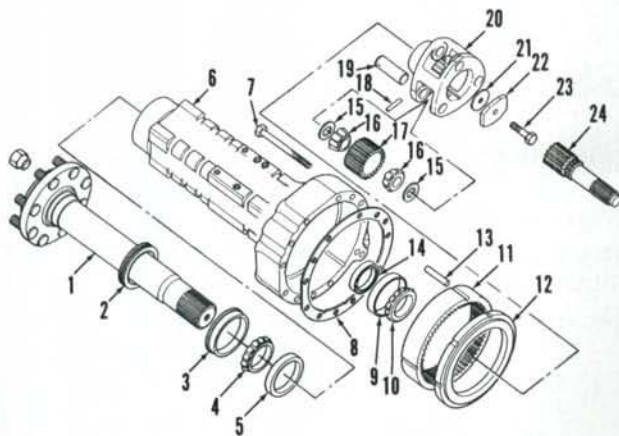
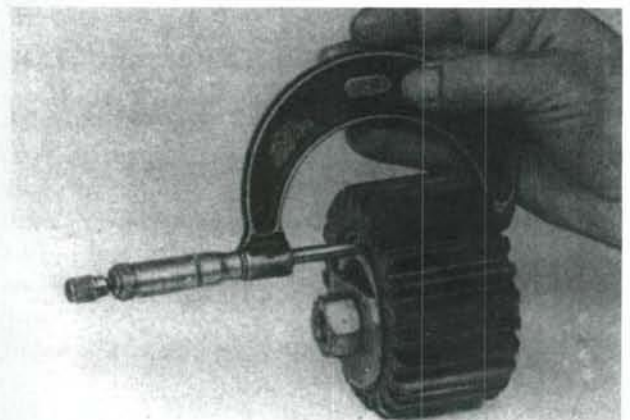

Fig. 137—Exploded view of final drive assembly.
Fig. 139—Measure distance across bearing inner races as shown.
cap screws (7—Fig. 137) and install two guide studs. Attach a hoist and sling to axle housing, then unbolt and remove final drive assembly.
119. **OVERHAUL PLANETARY CARRIER.** With final drive assembly removed as outlined in paragraph 118, proceed as follows: Remove outer brake disc (12—Fig. 137) and cap screw (23) securing planetary unit to axle shaft (1).
inch cap screw and nuts, proceed as follows: Secure cap screw in a vise with threaded end pointing upward. Lubricate bearings (16) with Hy-Tran Plus oil and position over the cap screw with bearing and washer on each side of gear with washer flats in alignment. Tighten nut to a torque of 10 in.-lbs. (1.23 N·m) while rotating gear. Using a micrometer, measure distance across bearing inner races as shown in Fig. 139. With this measurement, refer to chart in Fig. 140 for the required shims (15—Fig. 137) to be installed for correct bearing preload. Keep each shim pack and gear together after correct shims have been selected.
120. OVERHAUL REAR AXLE AND RING GEAR. If it is necessary to remove the ring gear (11—Fig. 137), remove planet carrier assembly as outlined in paragraph 119. Using a suitable puller, remove ring